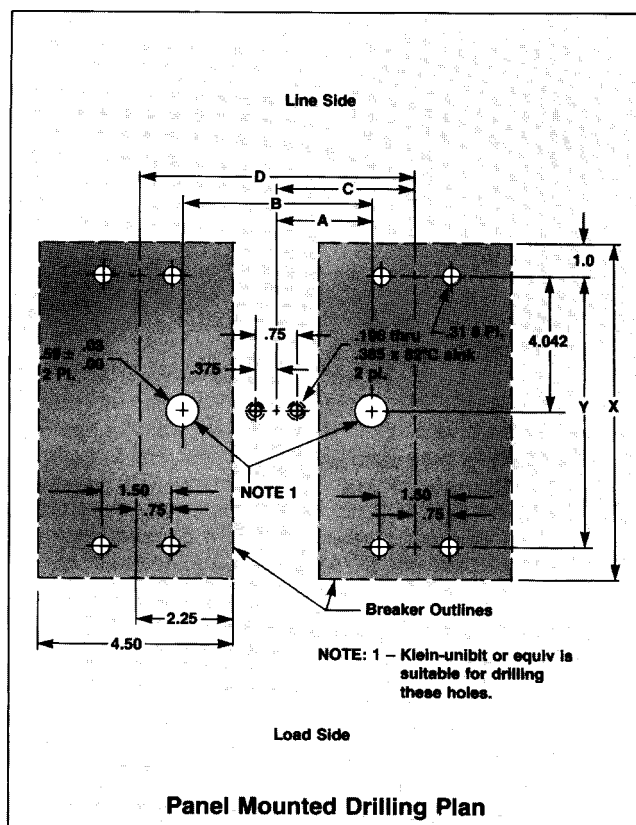

Figure 1
Circuit Breaker Preparation and Mounting (Figures 1, 2 and 3)
- B. Drill panel as shown in Figure 1 for panel mounted or Figure 2 for plug-in mounted.
Caution: Malfunction of the Mechanical Interlock could occur if the dimensions shown in Figures 1, 2 and 4 are not maintained. This could result in property damage. Make sure that all interface dimensions remain fixed during the service life of the interlock and breakers.